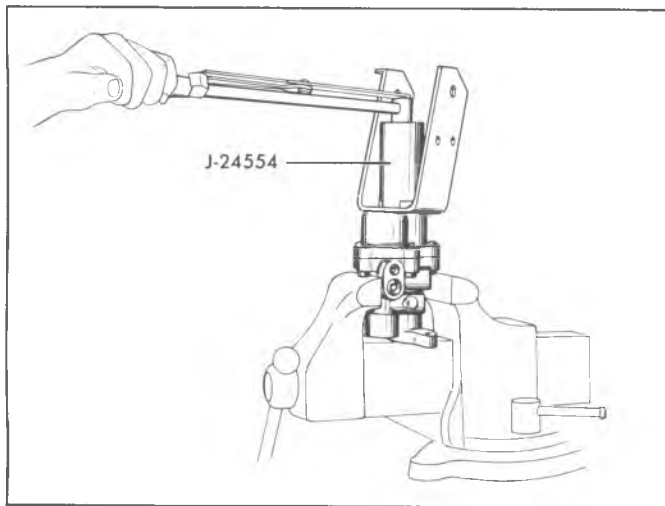

Fig. 9E--Installing Linkage Bracket Nut (Typical)
15. Install the **NEW** bracket nut with the staking groove outward on the threaded hub of the booster. Using Tool J-24554 and a torque wrench (fig. 9E), tighten the nut to 95-120 ft. lbs.